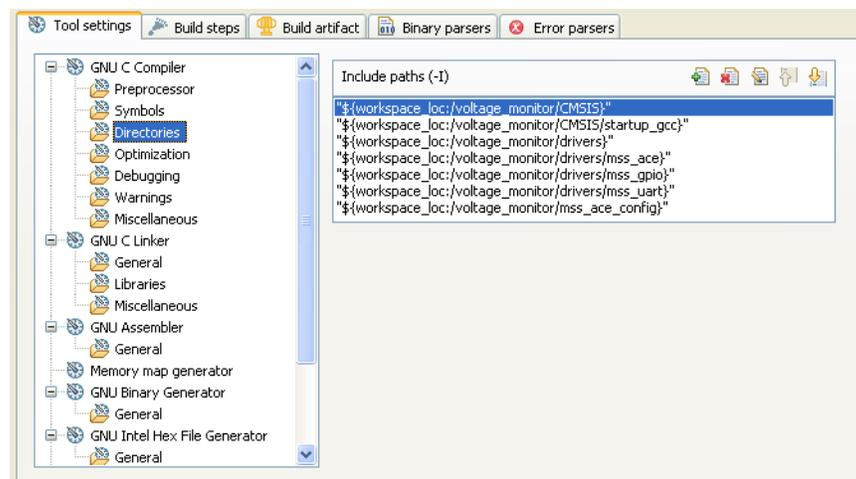

Figure 3-11 · Project Folder Settings
- Repeat this process for all of the directories in the project . All of the directories in the project should be visible in the Include paths windows of the Settings dialog box (Figure 3-11).